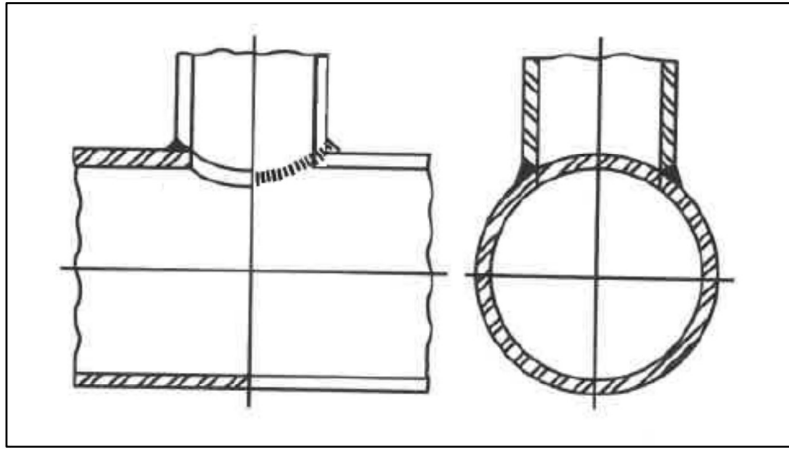
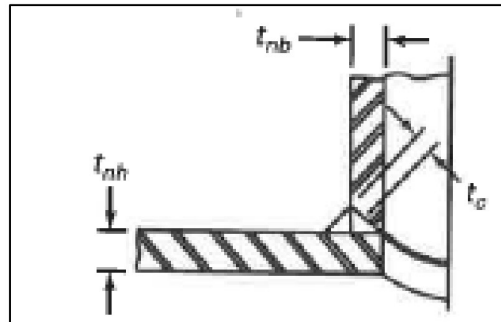

Figure 2
Figure 3
4. To complete, weld the Tap+Enclosure to the pipe using a qualified weld procedure. The weld profile should match Figure 2. It must be a complete joint penetration weld with a fillet weld reinforcing weld that matches Figure 3 where  $T_c$  is the minimum of  $\frac{1}{4}$ " or  $0.7 \times T_{min}$ .  $T_{min}$  is the smaller of wall thickness of the pipeline ( $T_{nh}$ ) or the wall thickness Tap+Enclosure ( $T_{nb}$ ).